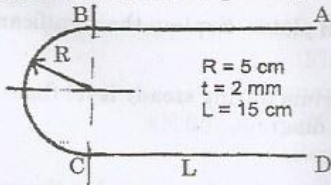

Figure 3
12. a) Obtain the shear flow in the thin-walled section shown in Fig. 3 where the radius of the semi-circular part is 5 cm while length of the horizontal part is 15 cm. Wall thickness = 2 mm throughout. The section is subject to a downward shear force of 18 kN passing through the shear center.